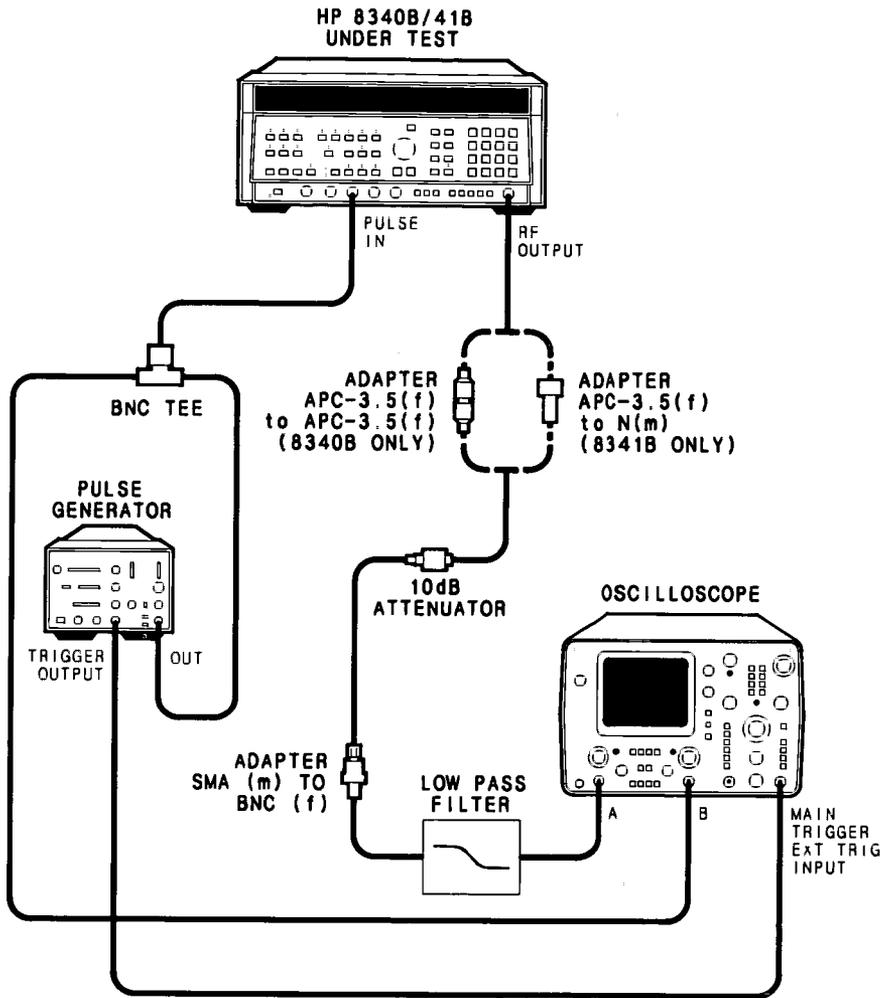

Figure 4-17. Pulse Modulation Video Feedthrough Test Setup
1. Connect equipment as shown in Figure 4-17. Attach the BNC tee directly to the DUT's PULSE input connector. Allow a one hour warm up time.